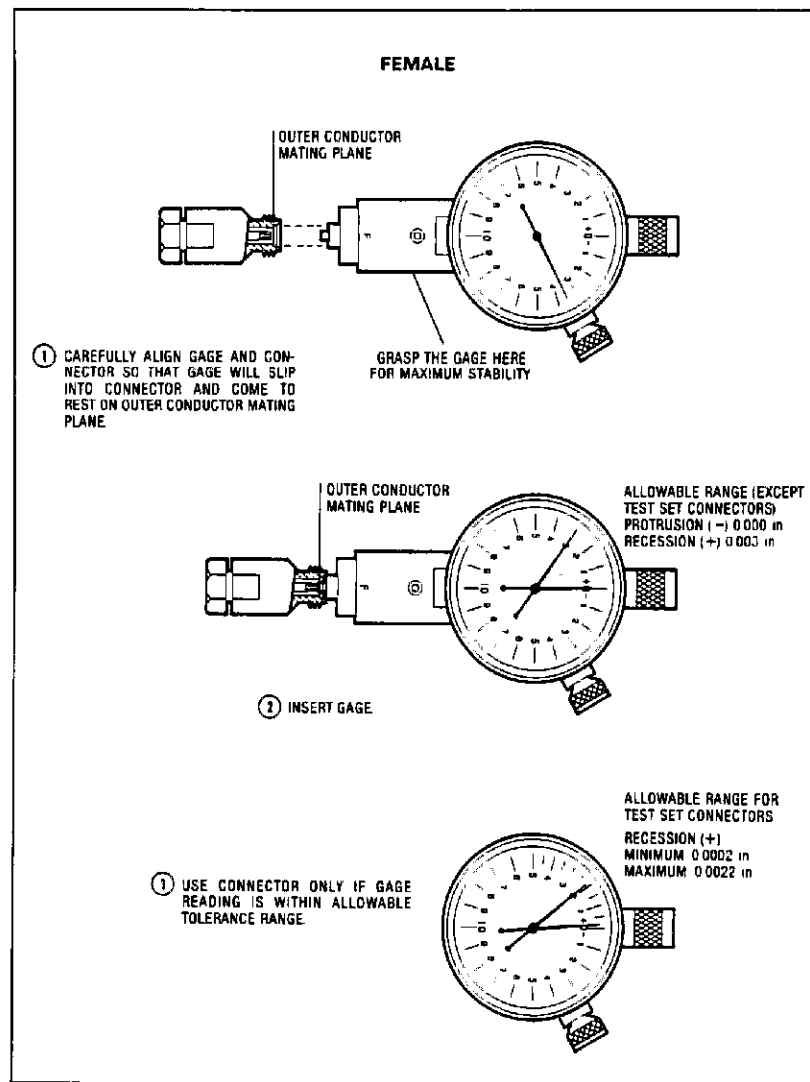

Figure B-10. Measuring Precision 3.5 mm Female Connectors
3. When you are satisfied with this preliminary connection, use the following counter-rotation technique to eliminate air wedges between the mating planes (see figure B-10). If the connecting device is male, hold the connector nut firmly. Very slowly rotate the body of the device about 10-20 degrees counterclockwise. Note that this slight rotation or backwiping is sufficient. Greater rotation does not improve electrical performance and increases wear on the connector surfaces.